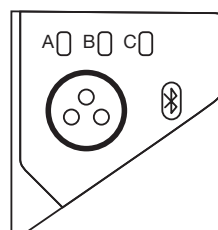

Fig. 14
- In order to see the current color setting, quickly press and release the TRI-COLOR button. The current setting will blink. To change the setting, press the TRI-COLOR button repeatedly to move the flashing LED to the desired color (Fig. 14).